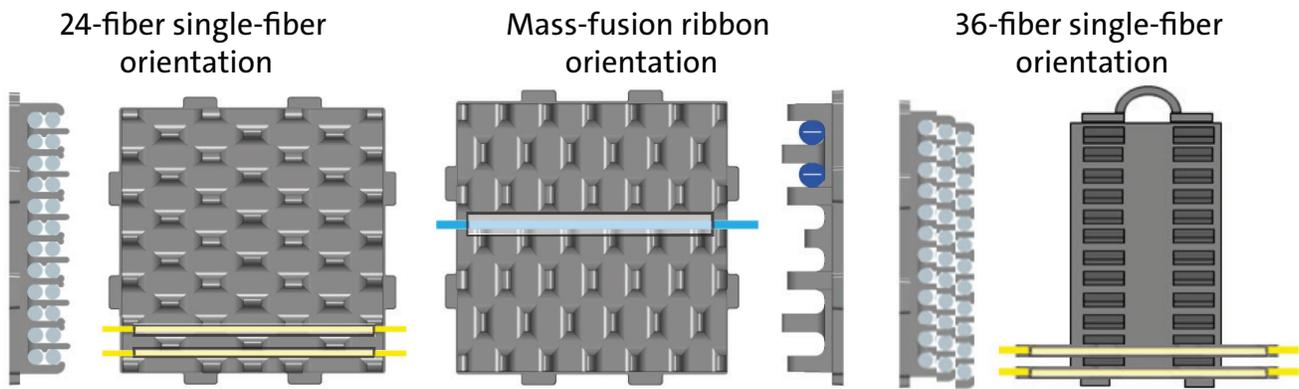

Figure 21
**NOTE:** When placing spliced fibers in the splice organizer, it may be necessary to lift the organizer and rotate it 90 degrees from its factory-installed orientation (Figure 21).